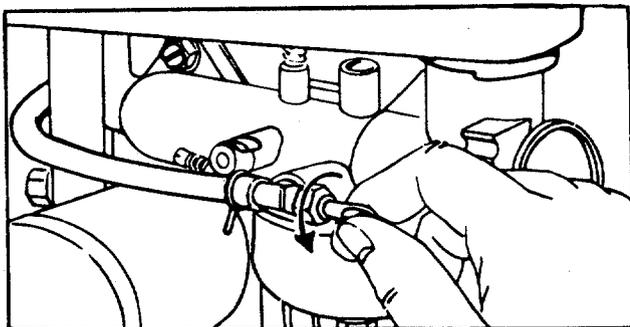

FIGURE 13. FUEL SHUT-OFF VALVE
- Step 1. Be sure the fuel shut-off valve is open See figure 13.